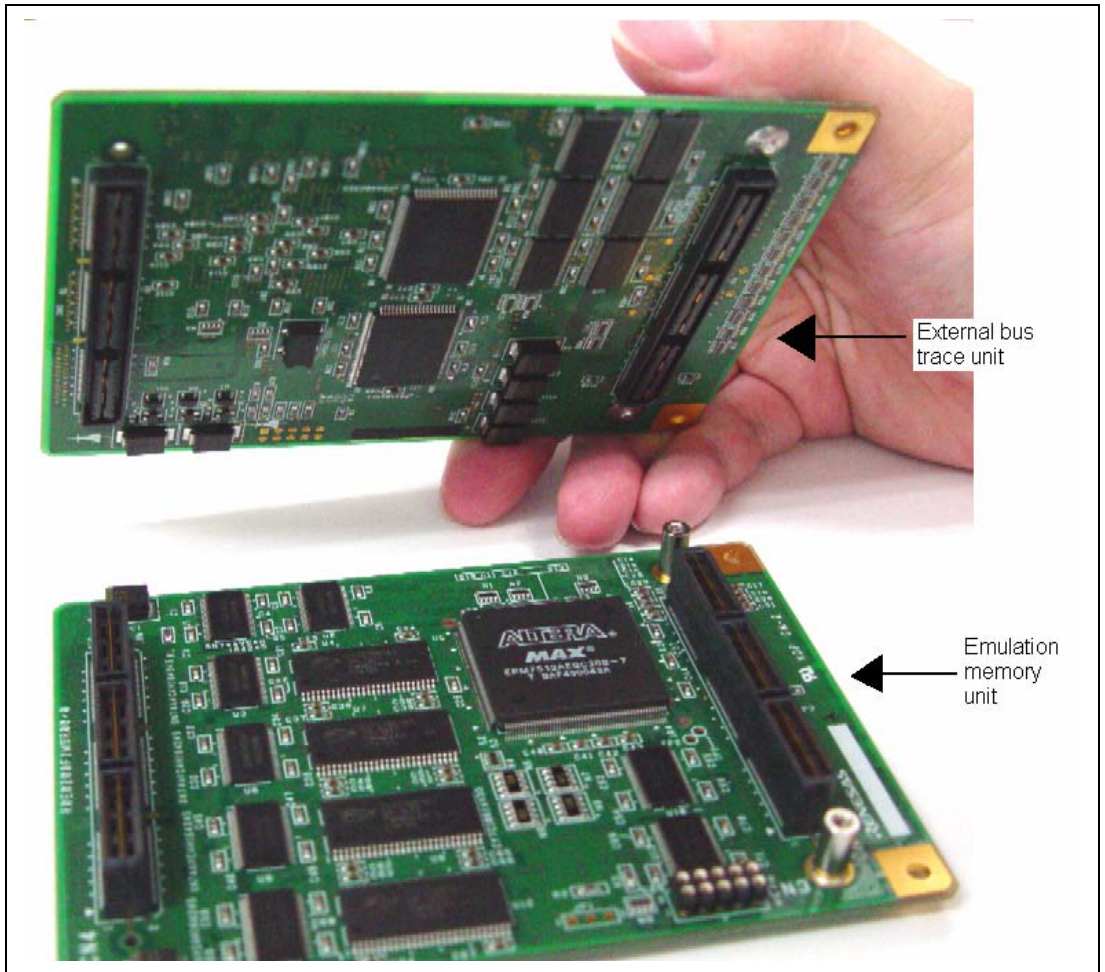
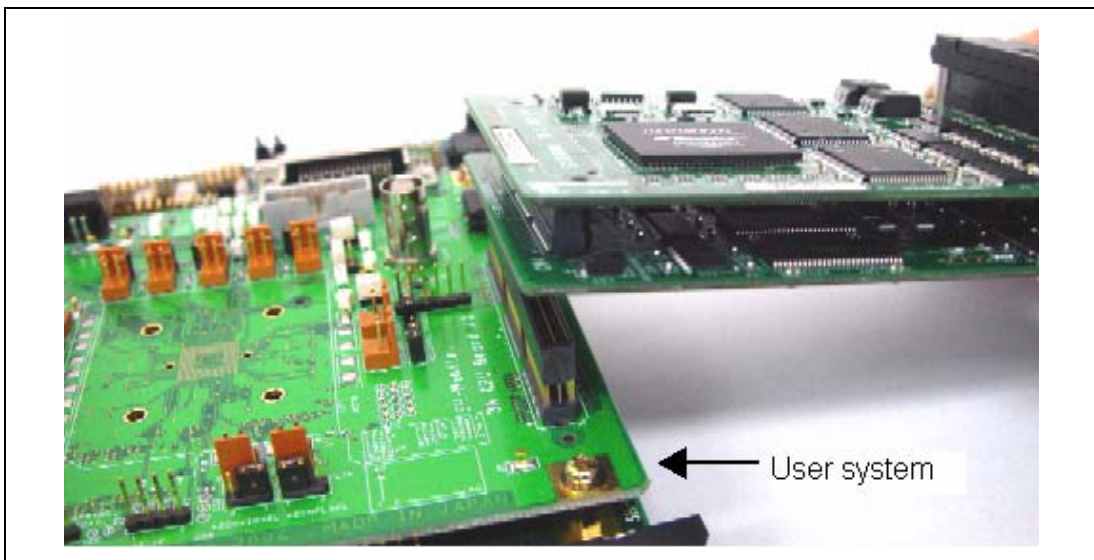

Figure 2.8 Connecting the External Bus Trace Unit to the Emulation Memory Unit
Figure 2.10 Connecting the External Bus Trace Unit, Emulation Memory Unit, and User System
- When the external bus trace unit is used with the emulation memory unit, firstly connect the external bus trace unit to the emulation memory unit (figure 2.8) and then to the user system (figure 2.10).